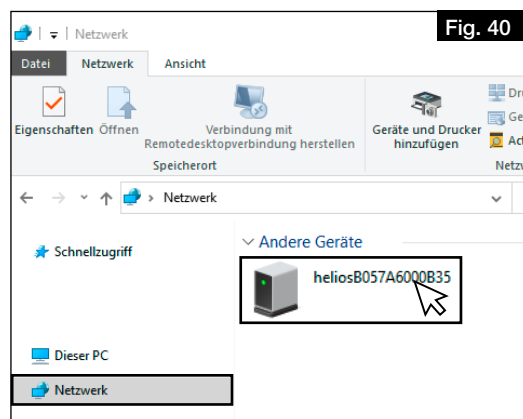

Fig. 40
2. Open desktop and click on Network, cf. Fig. 40.
3. Double-click on the corresponding unit, cf. Fig. 40.